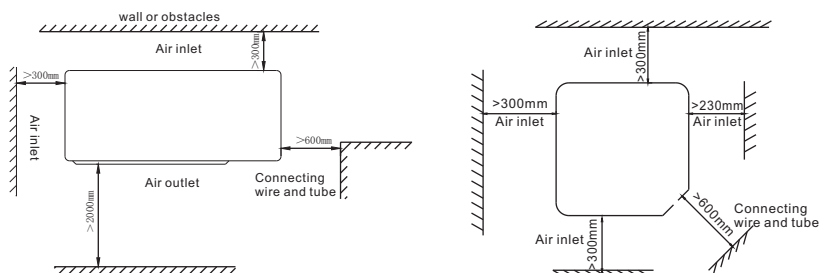

Fig 1
- 9) Leave enough space for installation or maintenance, refer to Fig 1;